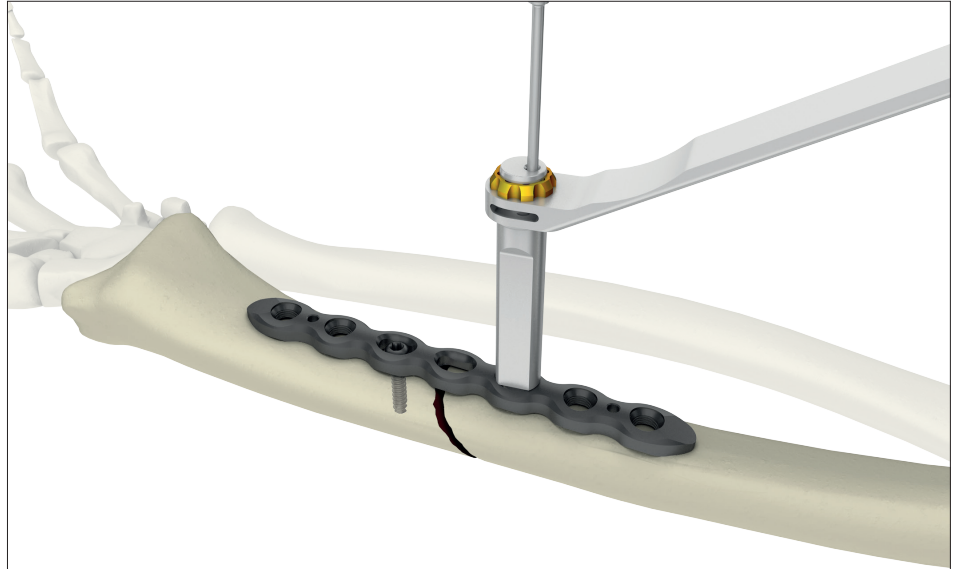

Fig. 2
Choose an oblong hole on the opposite side of the fracture to obtain compression. The chosen oblong hole is normally the one closest to the fracture. Use the compression/neutral drill guide (ref 705024 for 4mm plates and ref 705033 for 5mm plates), which correctly places the drill hole in the eccentric position (fig. 2).